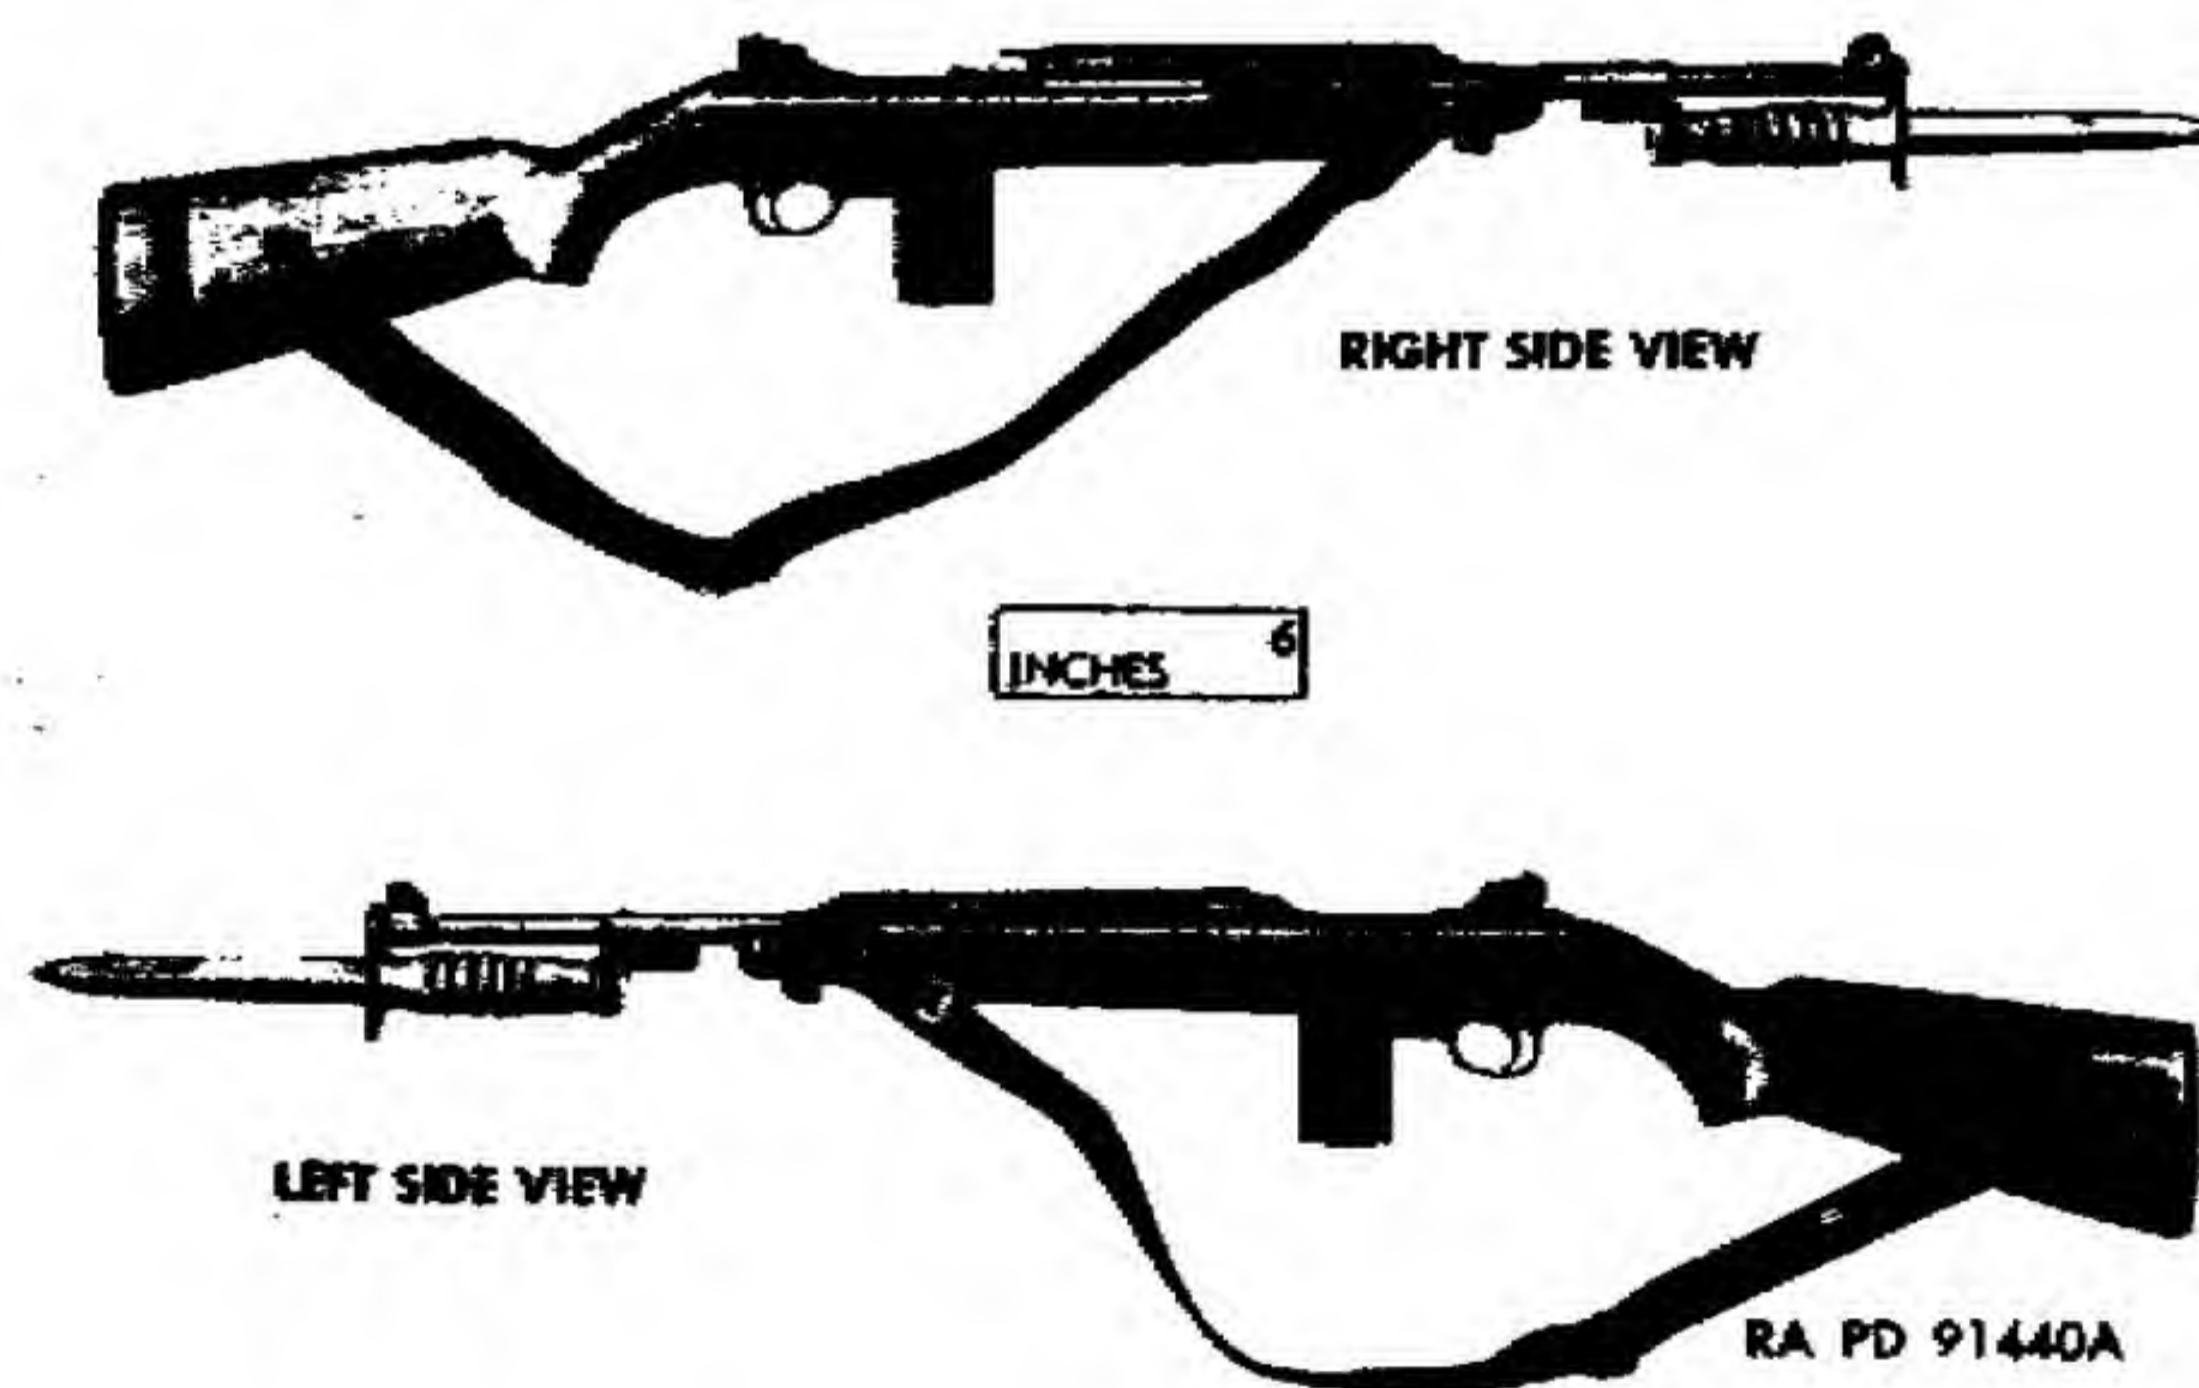

Figure 1. Cal. 30 carbine M1.
*b. Cal. 30 Carbines M1 and M1A1 (figs. 1 and 2).* The only difference between the carbines M1 and M1A1 is the stock. The M1 has a one-piece wooden stock, whereas the M1A1 has a folding metal stock extension and a wooden hand grip.